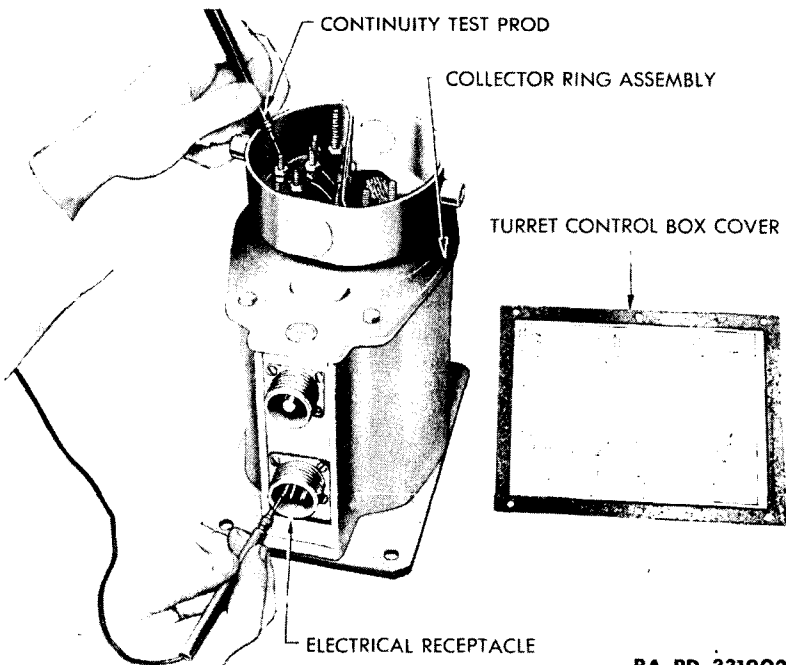

Figure 37. Checking collector ring electrical circuits (M24).
(1) Using a continuity tester (fig. 37), check circuit No. 1 by connecting prods of tester to terminal A and to post No. 1 of the collector ring. Check circuit No. 2 by connecting prods of tester to terminal B and post No. 2 of the collector ring. Check circuit No. 3 by connecting prods of tester to terminal C and post No. 3 of the collector ring. Check circuit No. 4 by connecting prods of tester to terminal D and post No. 4. Check circuit No. 5 by connecting prods of tester to terminal E and post No. 5. If any circuits are found to be open or defective, replace the complete collector ring assembly.